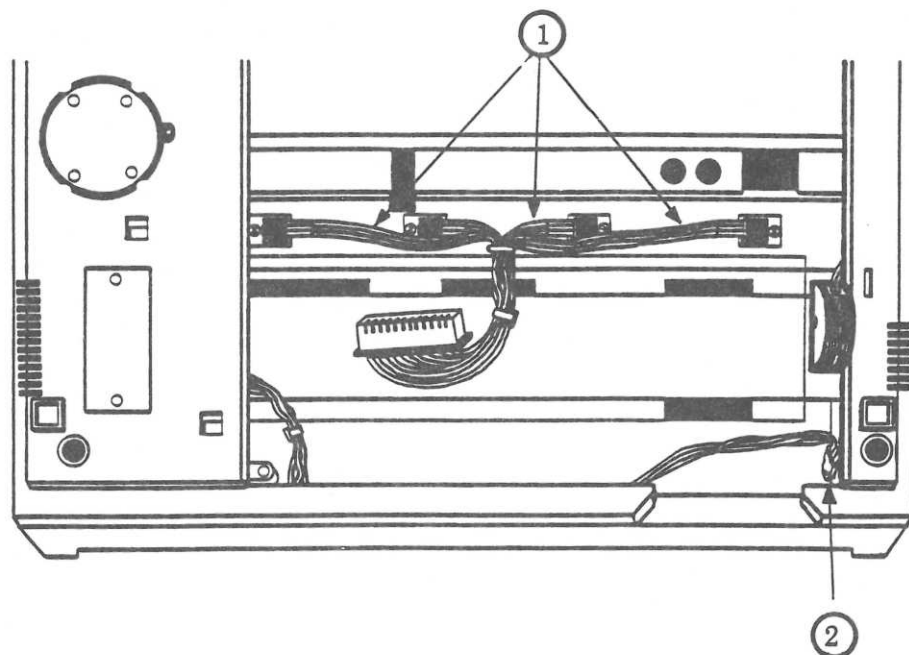

FIGURE 35
3. Note the location of the transistor assembly in Figure 35, #1.
3. Remove the screw from the 5V transistor assembly (Figure 35, #2) and carefully remove the transistor.